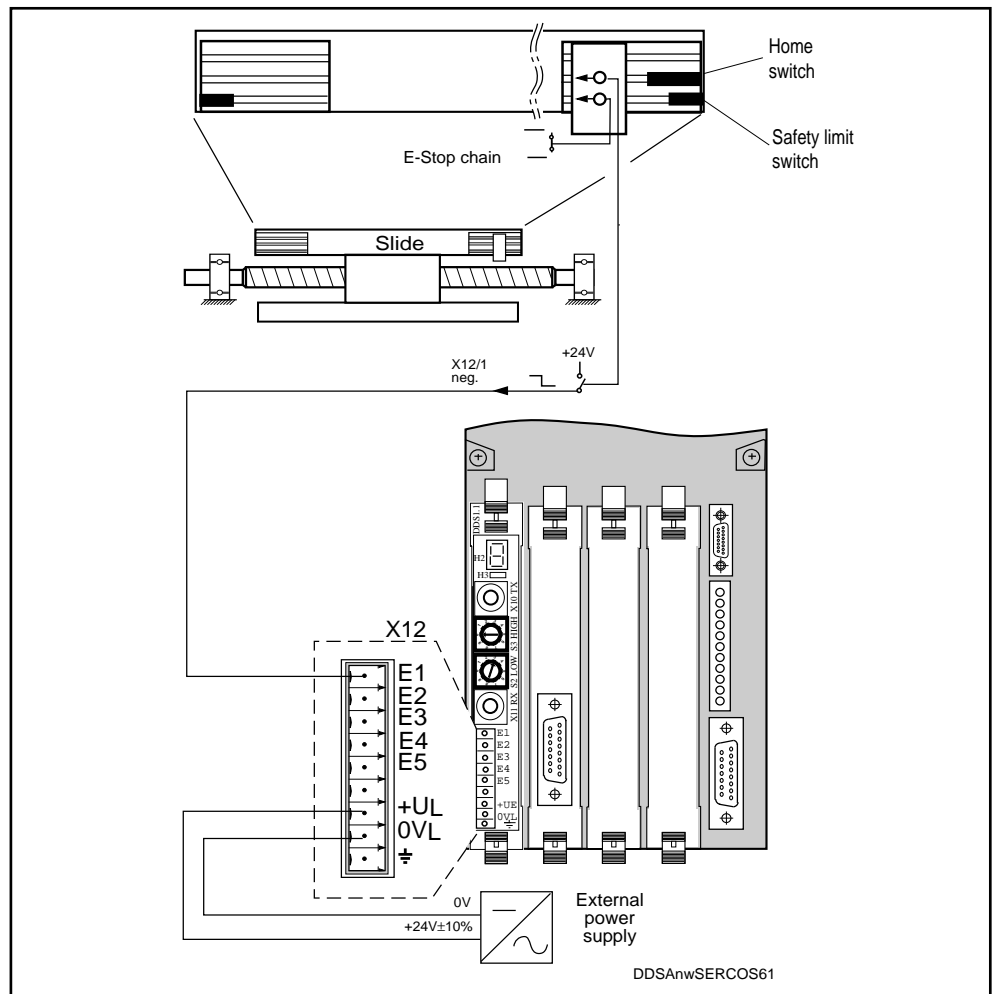

Fig. 7.50: Integration of the home switch in the DDS 2.1 circuitry.
- The home switch is of the normally open type. The switching status of the home switch must not change between activation of the home switch by the reference cam and theoretical arrival at the safety limit switch, i.e. the home switch cam must overlap with the safety limit switch cam (see Fig. 7.50).